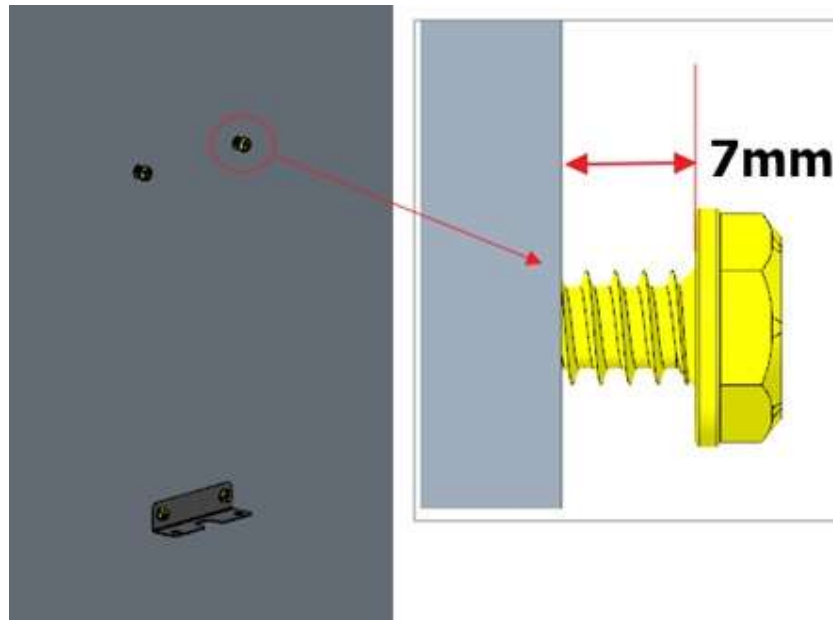

Figure A-12 Fixed Socket and Socket holder bracket
3. Use a $\Phi 8$ drill bit for the wall to open 4 holes with a depth of 70mm, install an $\Phi 8 \times 60$ expansion tube, and use two M6 self-tapping screws to fasten the wall mount to the two holes under the wall, and directly tighten the two holes on the top. Insert two M6 self-tapping screws. Note that the screw head protruding height is 7mm, as shown in Figure A-12.